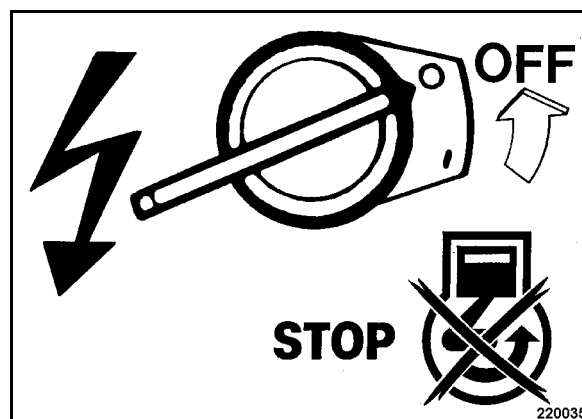

Fig. 23
- Turn the ignition switch to position OFF (Fig. 23), the engine will stop.